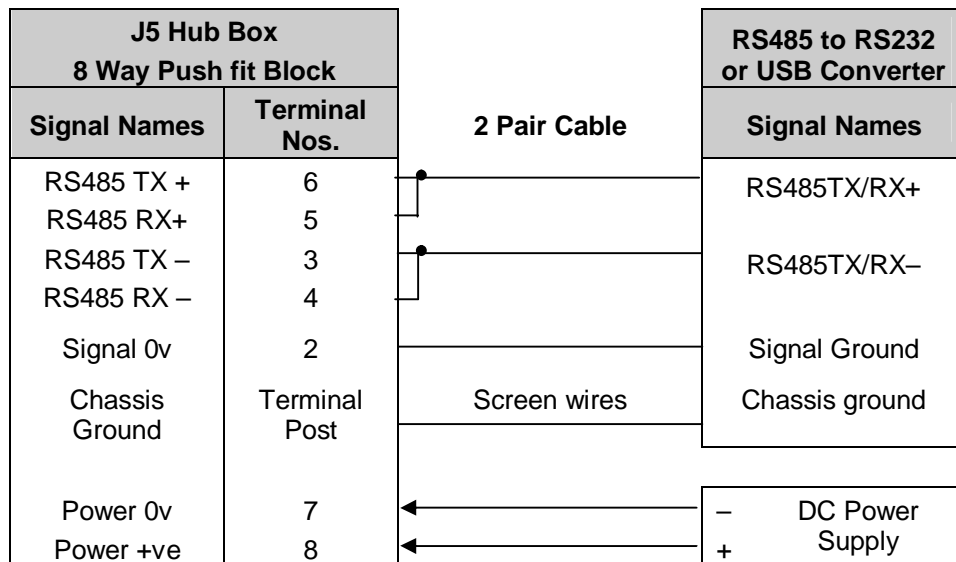

Figure 8 RS485 Connections
- RS485                                  Figure 8